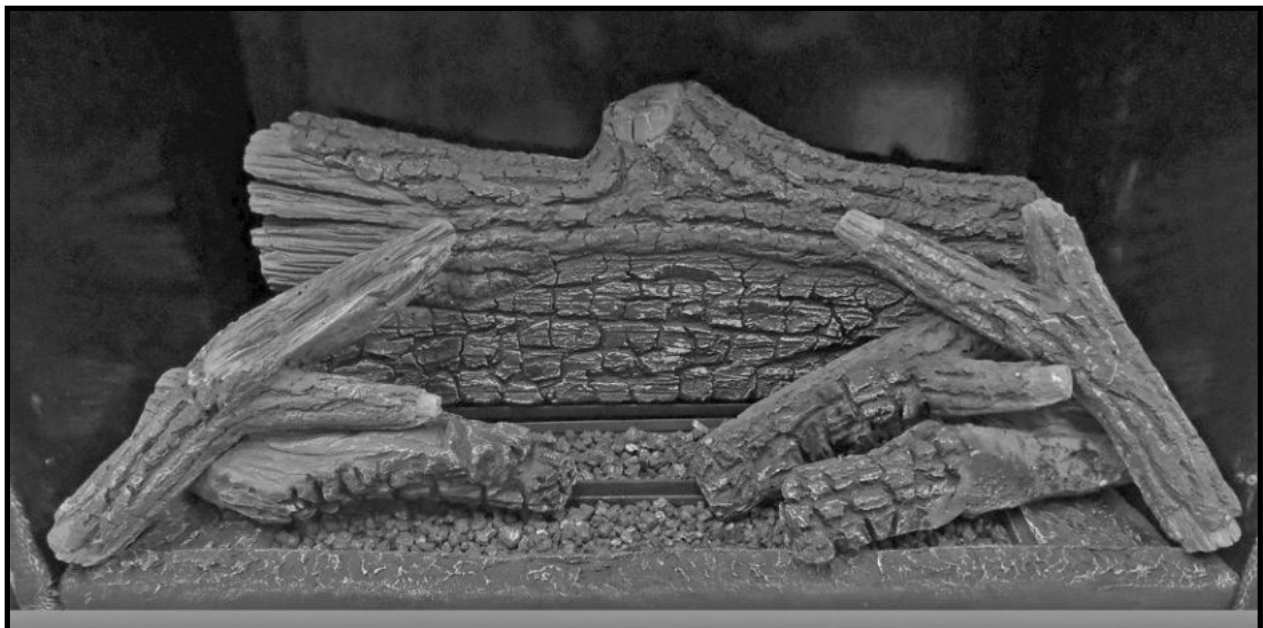

Figure 80: 6th log position.
14. Place the 6th log (Figure 60) so that the bottom end of the log rests against the right wall panel and right base piece. Position the top end so that the longer branch is cradled in the crook of the 5th log (Figure 80).